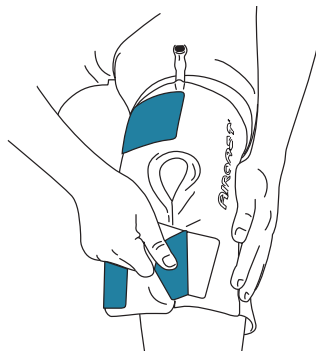

Figure 2
| 2. Always apply EMPTY Cryo/Cuff (Figure 2)..... | 4 |
2. Always apply EMPTY Cryo/Cuff (Figure 2)